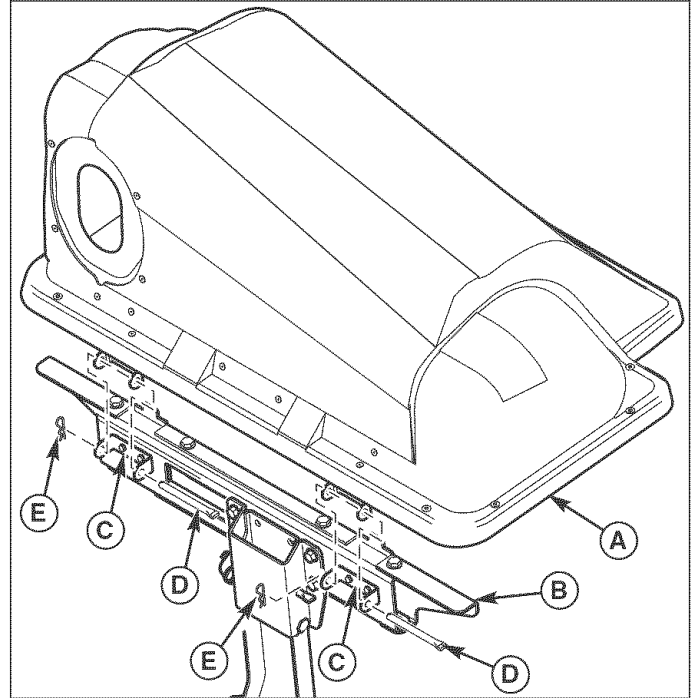

Figure 4. Cover Installation
1. Attach cover assembly (A, Figure 4) to bag support bracket (B) using cover hinge pivots (C). Secure cover assembly to bag support bracket using hinge pins (D) and retainer springs (E) as shown.